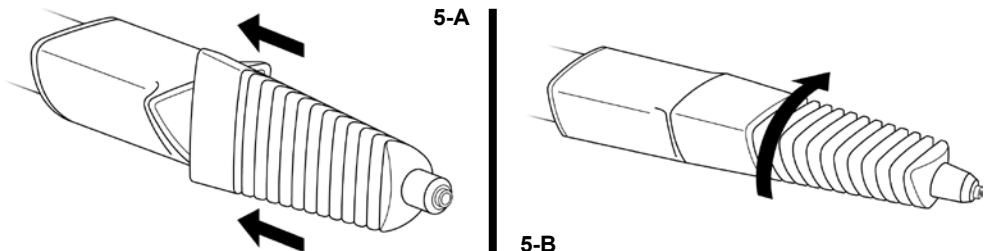

FIGURE 5
4. Slide Jet Nozzle onto Extension Hose, being sure to push it on as far as it will go (FIGURE 5-A). Rotate Jet Nozzle clockwise, turning it until you feel it “lock” into place and it will move no further (FIGURE 5-B).